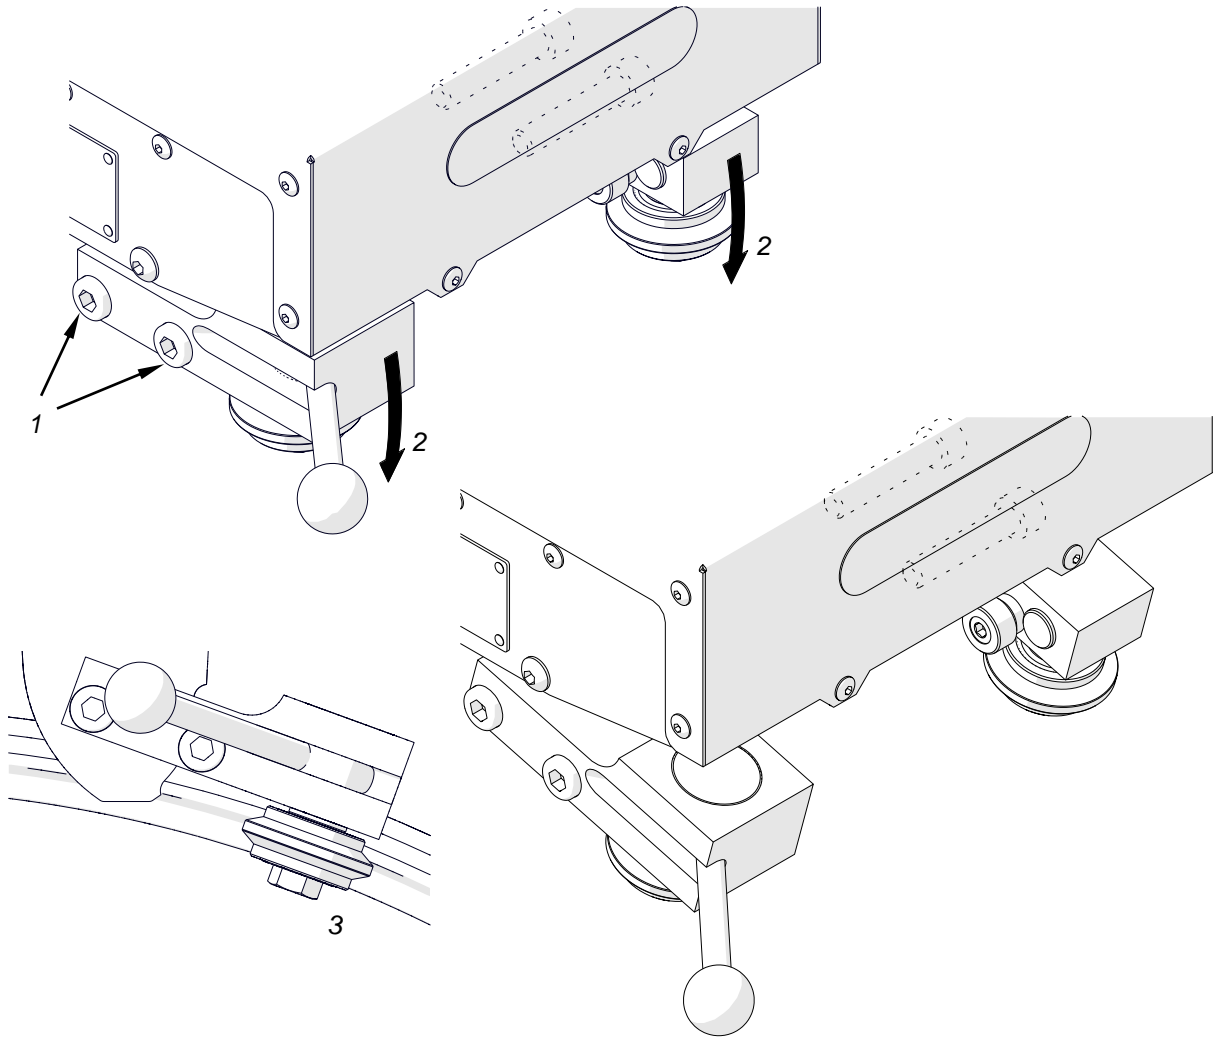

Fig. 8. Rotating the rollers for a curved track
Use the 6 mm hex wrench to loosen four screws (1, Fig. 8), and then put the carriage on the track. Rotate two roller brackets (2) to put the rollers into the grooves, and then set the levers to ON (3). Next, move the carriage left or right and make sure that it moves smoothly. Then, tighten the screws (1) and the knob (4).